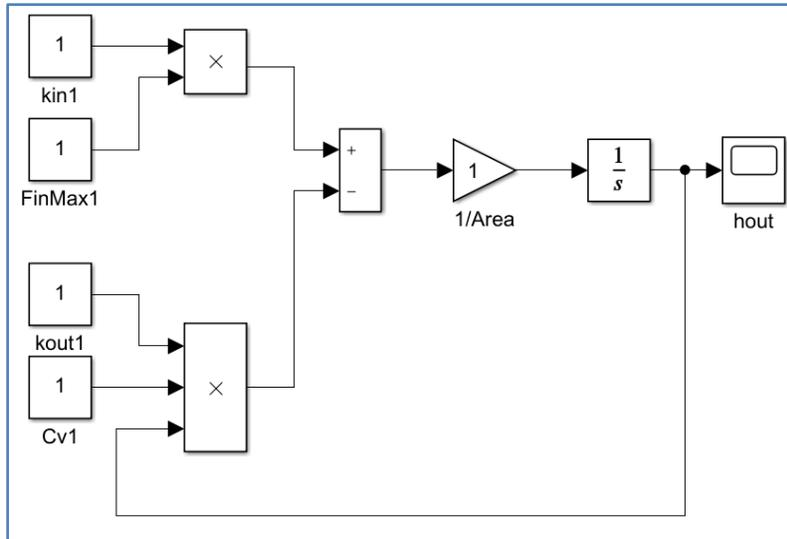

Figure 4. After renaming blocks and connecting the lines.
- 4. Rename blocks (double-click on label below the blocks and then edit) then connect lines (click-drag from one port to the other port) among the blocks as shown in Figure 4. (Hint: for the line from “hout” to “Product”, click on the input of the “Product” then drag to the “hout” line.)